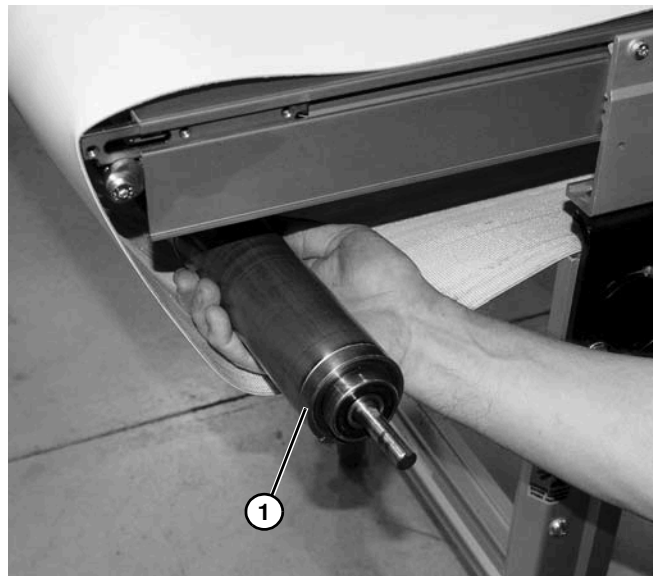

Figure 65
6. Slide the drive pulley (Figure 65, item 1) out of the belt loop.